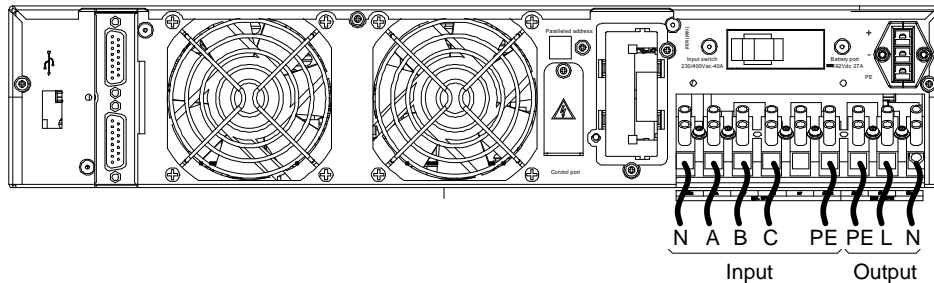

Figure 2-25 Cable connection for 3-in 1-out
4. Insert the PP45 plug into the battery port on the rear panel of the UPS, as shown in Figure 2-25.